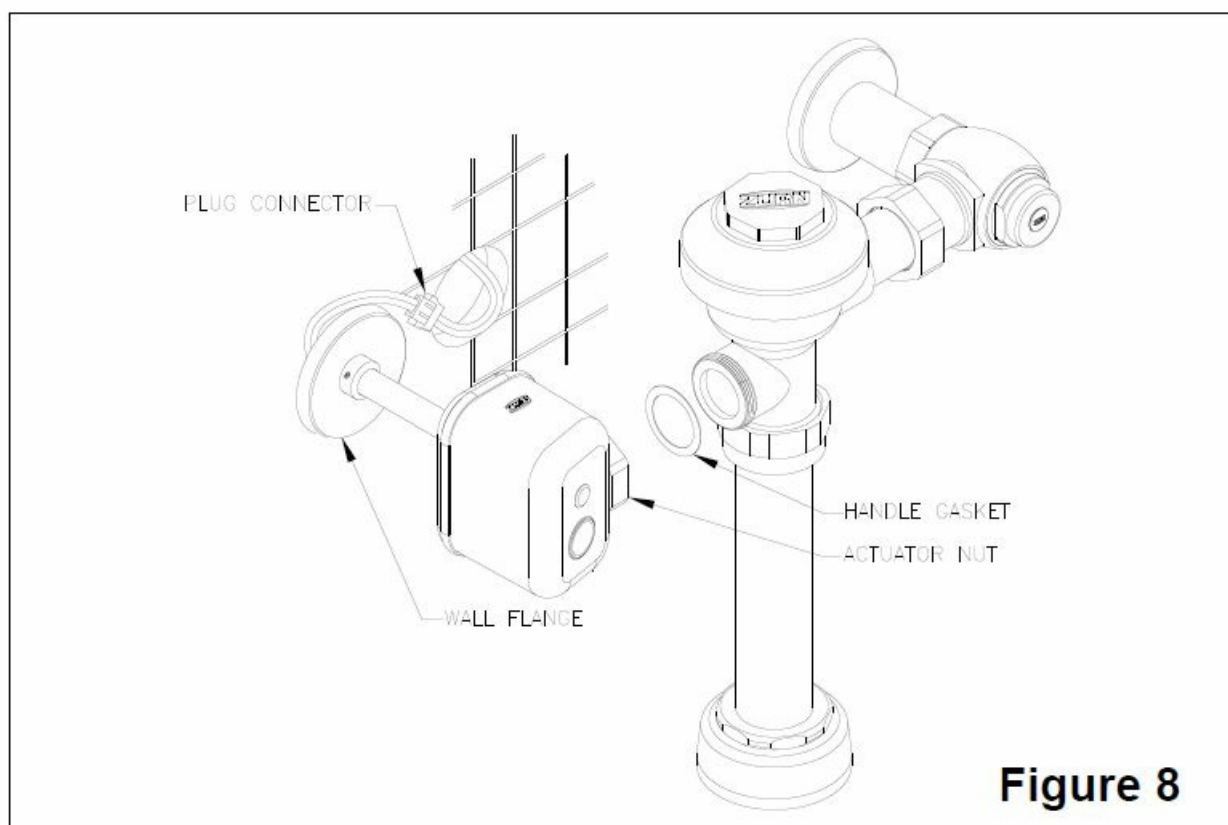

Figure 8
STEP 8 – Actuator Installation (Figure 8)
STEP 9 – Flush Out Supply Line (Figure 8)